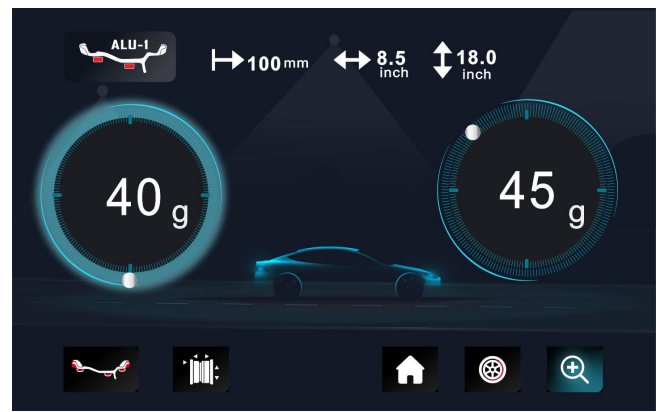

Fig. 7
4.2.6. Press  , the displays with left LED's lit up full indicate the correct angular position where to mount the counterweights, 6 o'clock position inside, as Fig.7, add the counterweight.